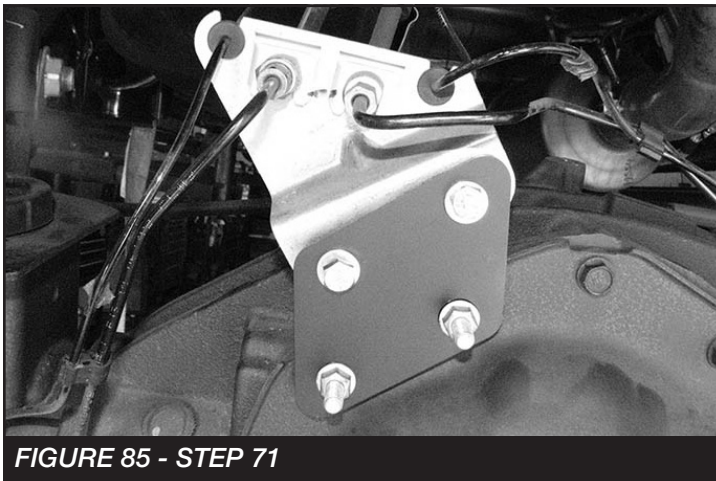

FIGURE 85 - STEP 71
71. Locate FT44307 (Rear brake line bracket) and install using the supplied 5/16" hardware. **SEE FIGURE 85**